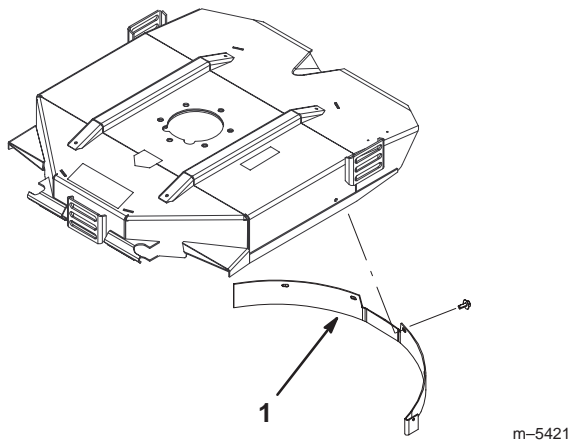

Figure 5
2. Install mulching baffle in rear opening and secure with 5 flange head screws (Fig. 5).